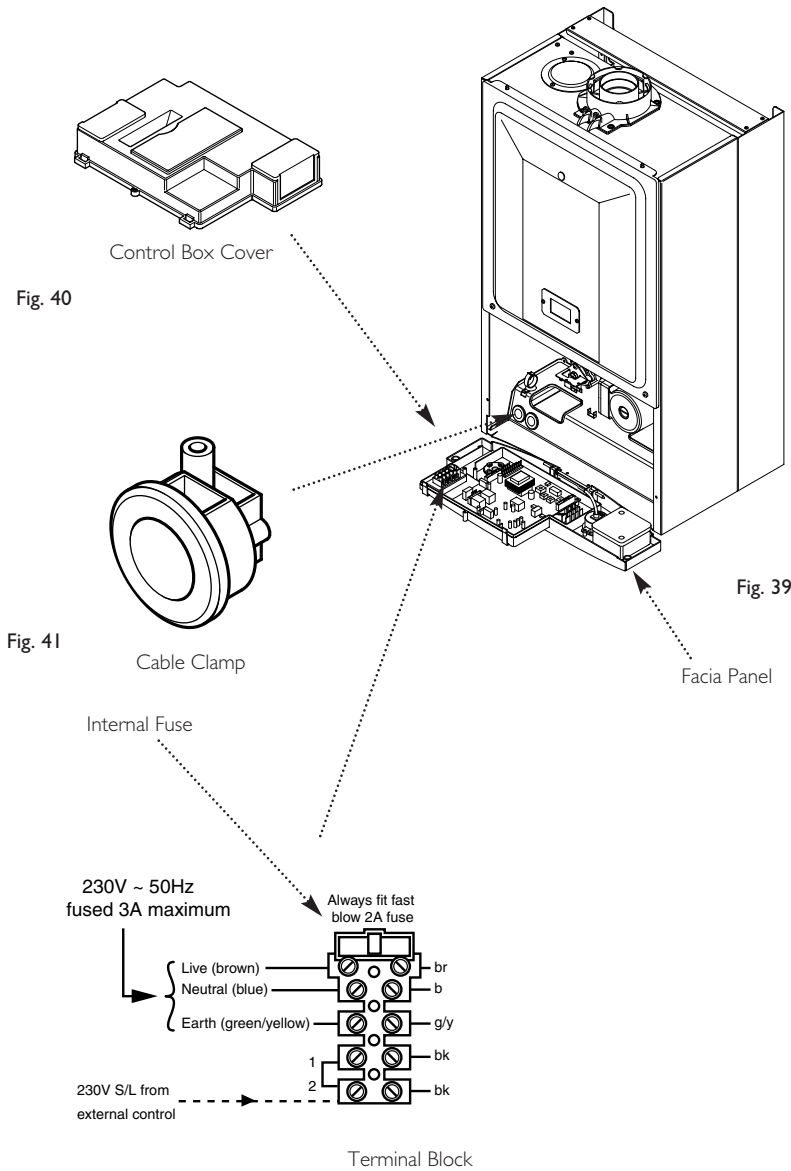

Fig. 42
7. To connect external control(s) remove the link between terminals 1 & 2. The switched output from the external control must be connected to terminal 2 (Fig. 42).